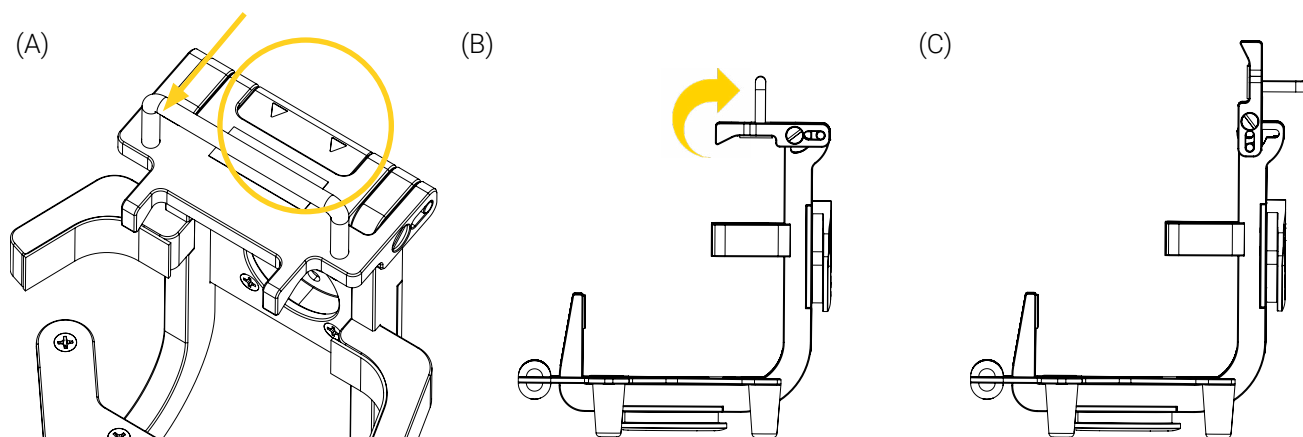

Figure 5: Unlocking and opening the mounting system
1. Press and hold the quick release button of the mounting system (Figure 5 A), then flip the top towards the back (Figure 5 B and Figure 5 C).